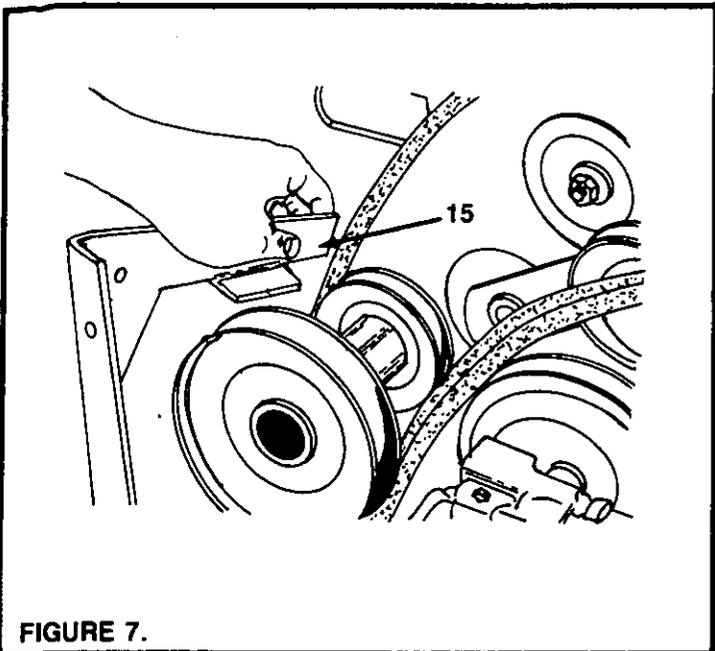

FIGURE 7.
9. Remove two hex bolts, nuts and lock washers from the engine pulley belt guard at rider frame to allow the engine pulley belt guard to drop down out of the way. See figure 7.